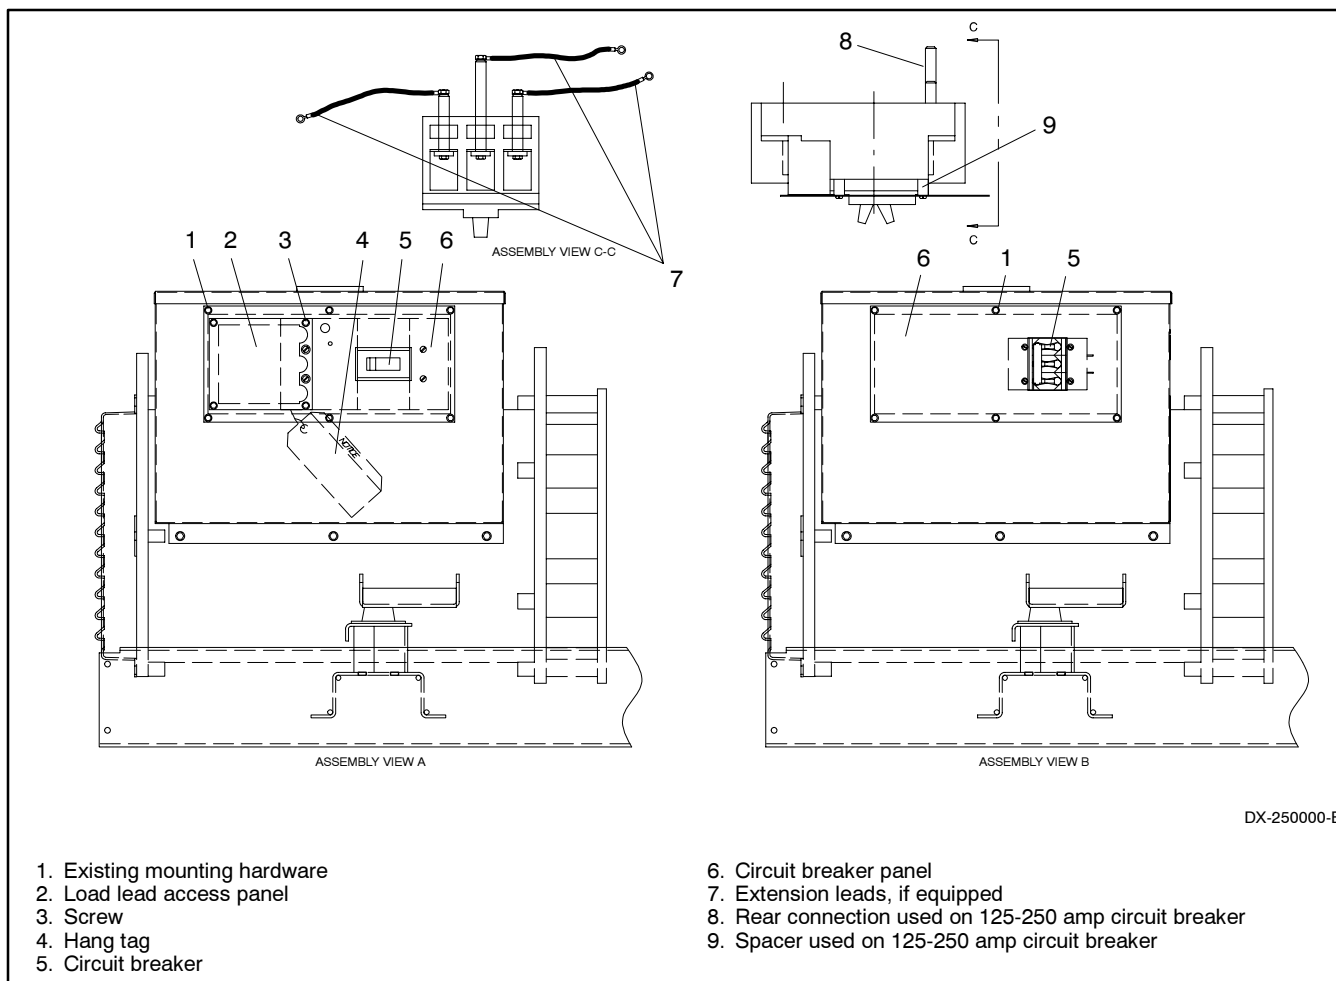

Figure 6-4 Circuit Breaker Mounting
4. Install the circuit breaker on the new panel with the screws and washers. Position the ON side of the circuit breaker toward the rear of the junction box. See Figure 6-4.
8. Attach the new panel to the junction box using the original six screws. See Figure 6-4.